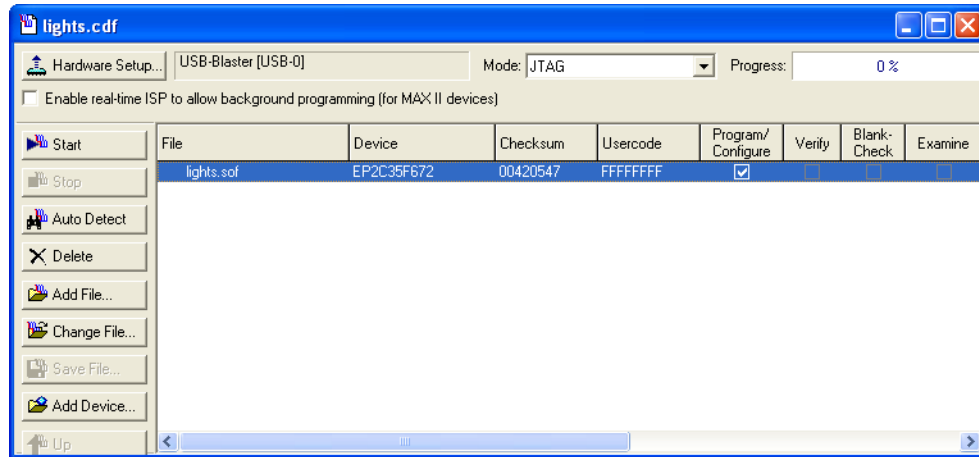

Figure 18. The Programmer window.
2. Select **Tools > Programmer** to reach the window in Figure 18.
6. At this point the window settings should appear as indicated in Figure 18. Press **Start** to configure the FPGA.